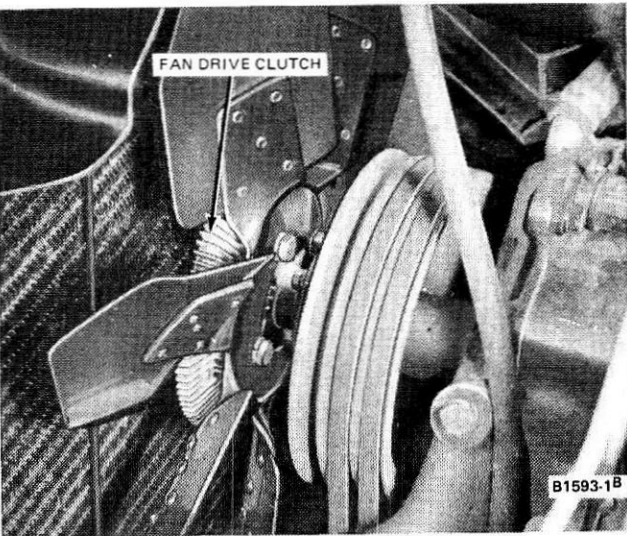

FIG. 1 Typical Fan Drive Clutch Installation
The fan clutch (Figs. 1, 2 and 3) permits use of a powerful fan without paying the penalty of power loss or noise. It is basically a temperature-controlled fluid coupling that regulates fan speed according to the temperature of the air coming through the radiator core
2. Loosen the fan belt. Remove the bolt and washer assemblies attaching the fan drive clutch to water pump hub (Fig. 1). Remove the fan drive clutch and fan as an assembly.